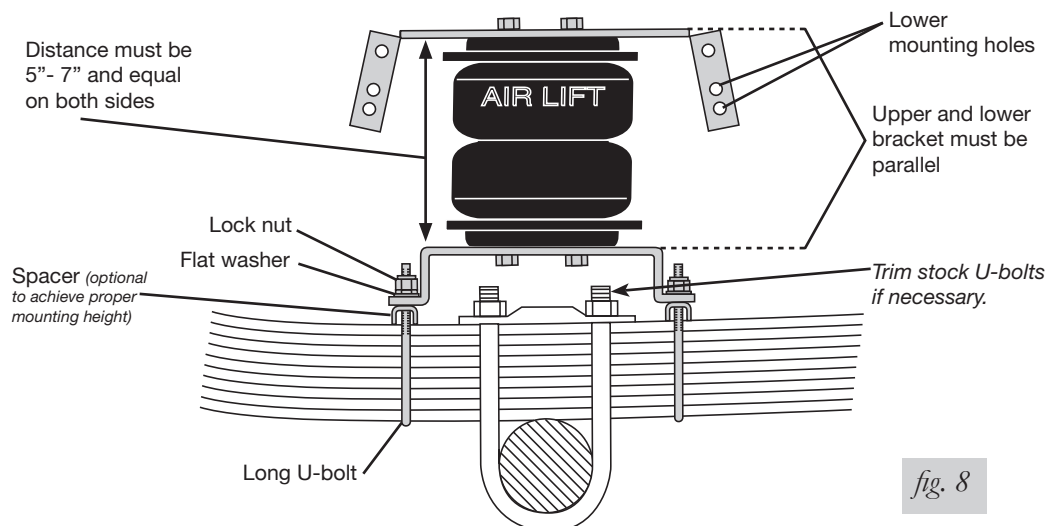

fig. 8
1. The air spring must be installed between 5" and 7" from both the upper bracket to the lower bracket (fig. 8). It is best to position the upper bracket as high as possible.
2. Set the air spring assembly on the leaf spring over the axle (fig. 8).